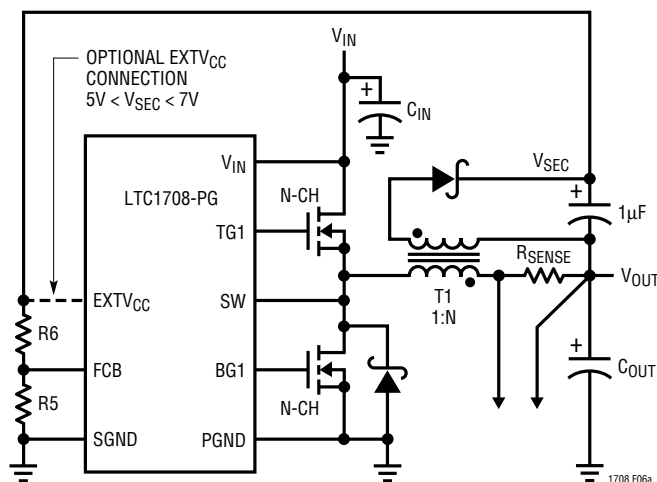
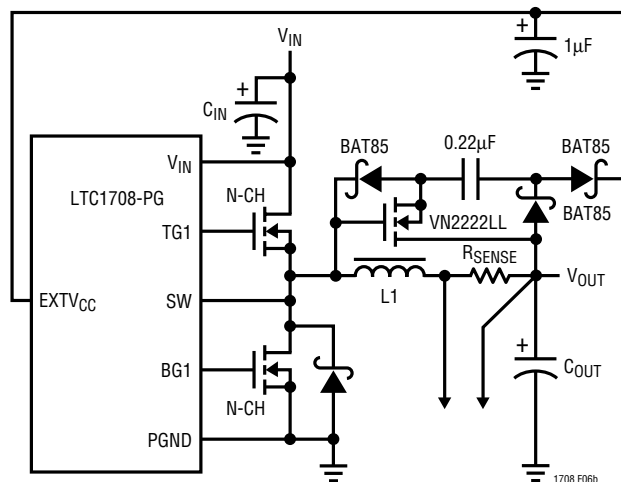

Figure 6a. Secondary Output Loop & EXT_{VCC} Connection
Figure 6b. Capacitive Charge Pump for EXT_{VCC}
4. EXTV_{CC} Connected to an Output-Derived Boost Network. For 3.3V and other low voltage regulators, efficiency gains can still be realized by connecting EXTV_{CC} to an output-derived voltage that has been boosted to greater than 4.7V. This can be done with either the inductive boost winding as shown in Figure 6a or the capacitive charge pump shown in Figure 6b. The charge pump has the advantage of simple magnetics.